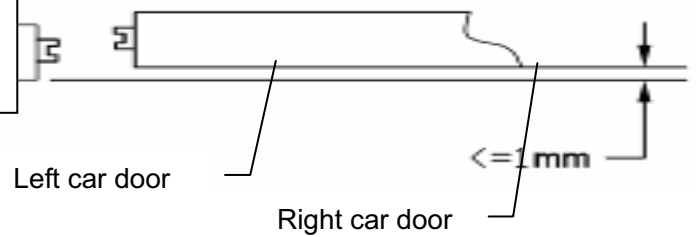

Figure 2-16 Side view of the car door configuration
4. The lapping distance of two door leaves should be shorter than 1 mm when the center-opening door is shut. See Figure 2-16 Top view of the car door configuration